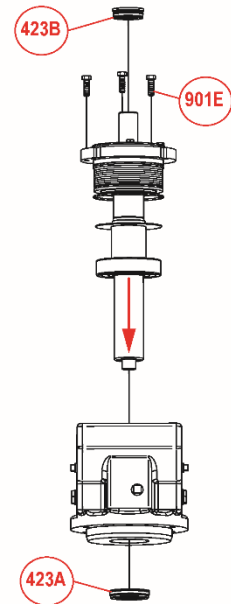

Figure 10-5: Shaft kit into housing
21. Thread the bearing carrier (382A) clockwise (right-handed thread) into the bearing housing (330A) Figure 10-5.